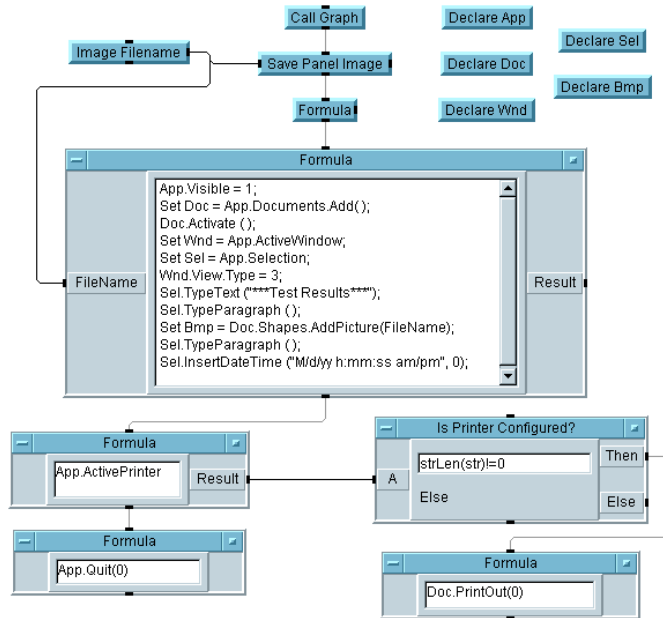

Figure 166 The Complete Program for Report in MS Word
- 9 Add three more Formula objects and one If/Then/Else object, configure, and connect them as shown in Figure 166.